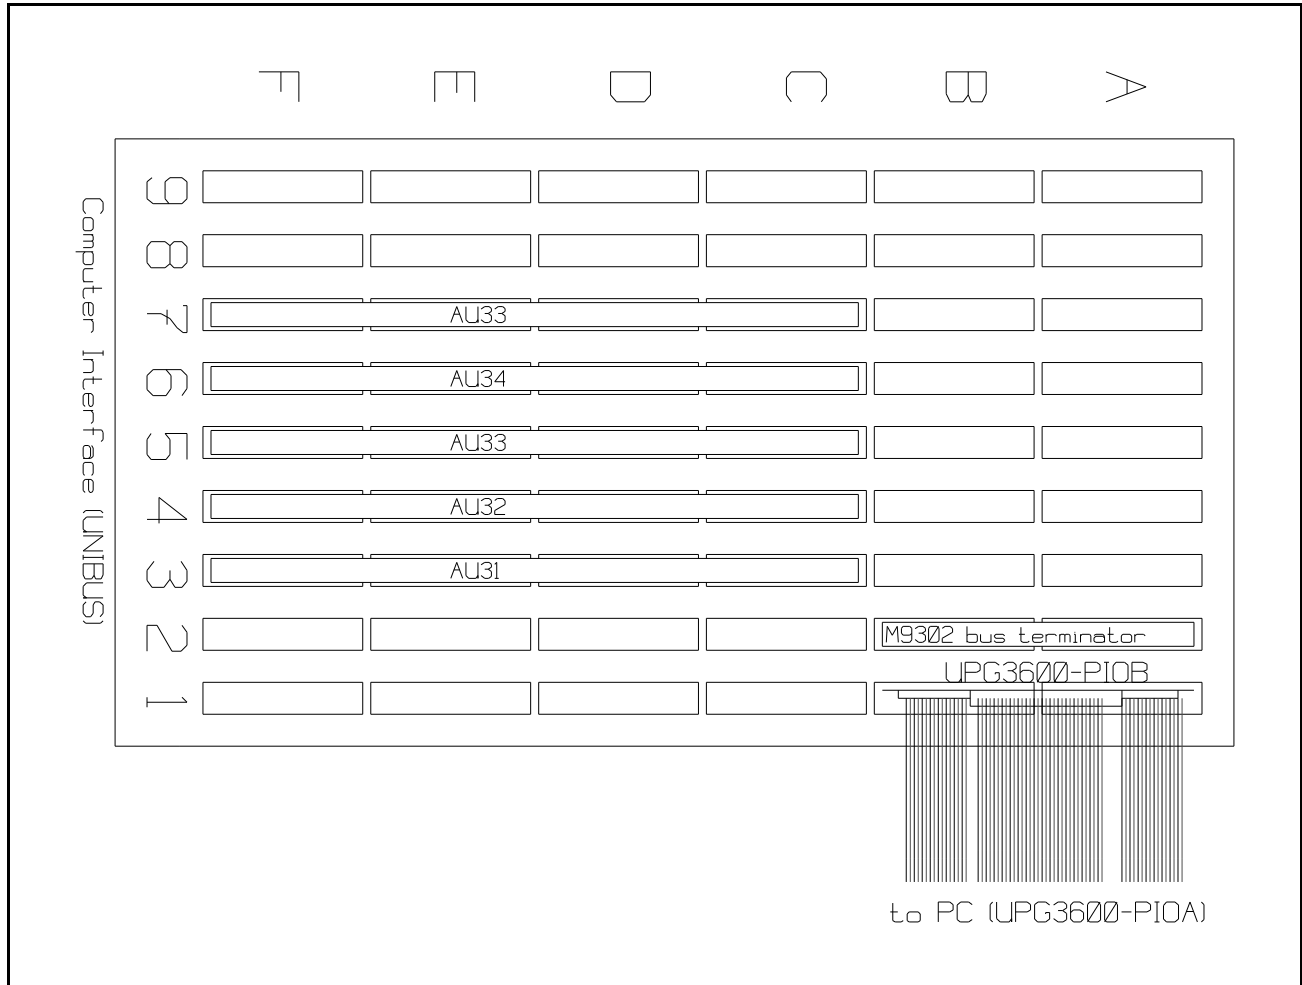

Figure B.4 : Typical Stepper Computer Interface Connection
In order to make the connection between the PC and the stepper, refer to Figure B.4 and perform the following steps :
- | Locate the large, usually white, ribbon cable that extends the UNIBUS from the PDP-11 controller to the expansion chassis inside the 9280 Computer Interface (CI). Note the position of this cable in the CI chassis, then remove it and replace it with the UPG3600-PIOB card. Note also that the UPG3600-PIOB edge connector is keyed and should be inserted so that its component side is facing the same direction as the component sides of all other boards in the chassis (see Figure B.4).